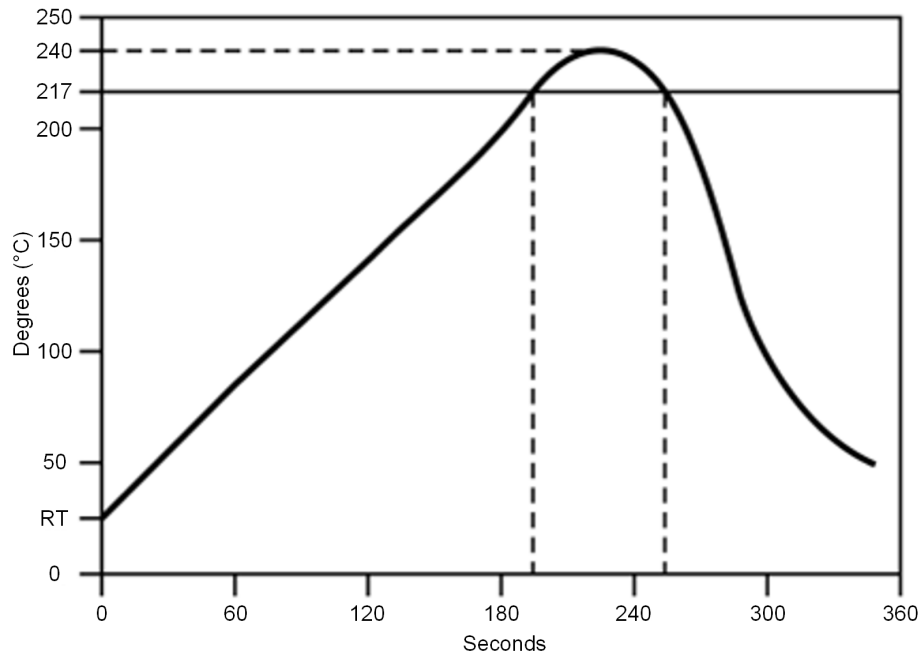

図 11-1. Temperature Profile for Evaluation of Solder Heat Resistance of a Component (at Solder Joint)
- Temperature measurement: Thermocouple d = 0.1 mm to 0.2 mm CA (K) or CC (T) at soldering portion or equivalent method
- Allowable reflow soldering times: 2 times based on the reflow soldering profile (see 図 11-1)
- Temperature profile: Reflow soldering will be done according to the temperature profile (see 図 11-1)